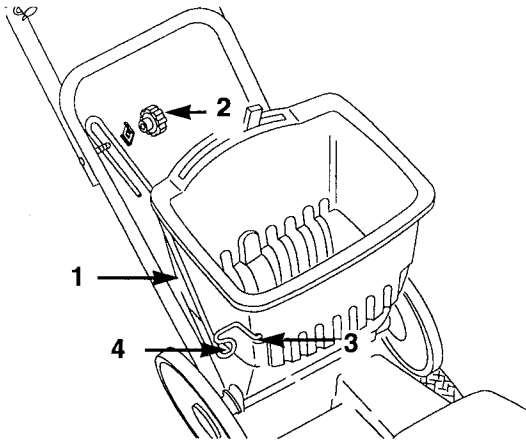

Figure 18
3. Remove the handle knob (Fig. 18) from the right side of the mower.
- A. Insert the end of the mounting rod into the hole on the right side of the hopper (Fig. 18).
- B. Put the engine rope into the curve in the mounting rod (Fig. 18).
2. Remove mounting rod and bracket from the handle and the hopper (Fig. 18). Reinstall the handle knob and bolt.